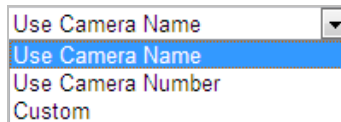

Figure 6-13 Child Directory
- ◆ **Child directory:** It is a sub-folder which can be created in the parent directory. The files will be saved in a sub-folder in FTP server. The name of folder can be defined as shown in following Figure 6-13.